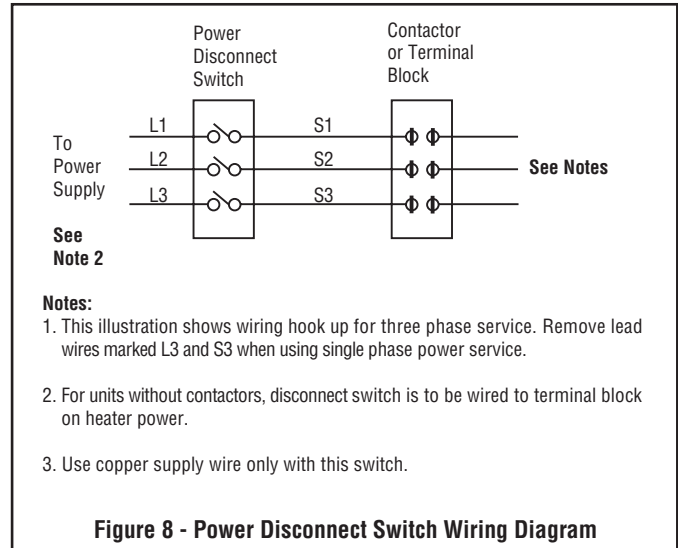

Figure 8 - Power Disconnect Switch Wiring Diagram
Heaters can be equipped with an optional thermostat of the Bulb and Capillary type for automatic temperature control (Figure 8). The thermostat controls the heating elements and fan simultaneously to achieve set temperature.
1. Use copper conductor supply wire only when connecting to the power line. (See Figure 8.)